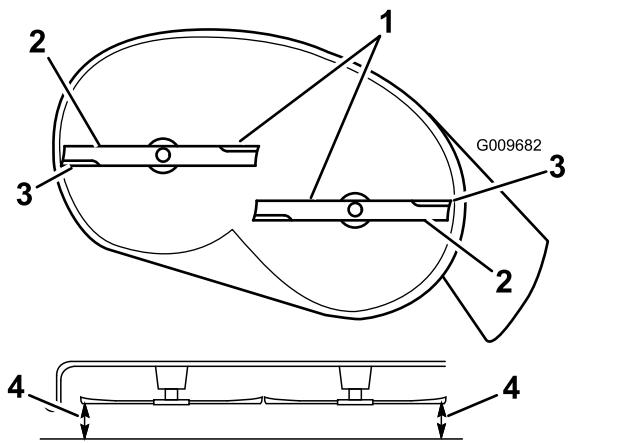
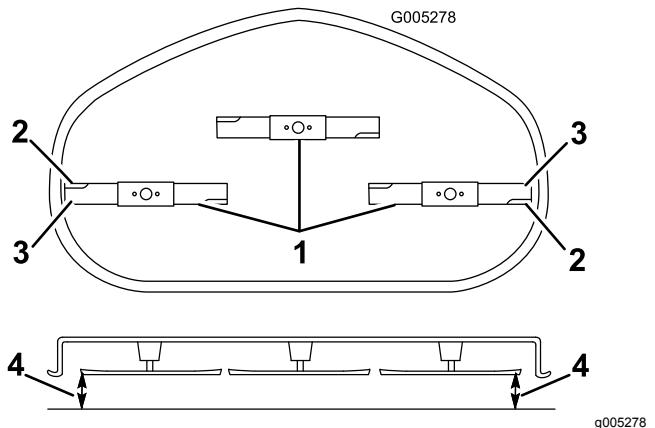

Figure 59
Figure 60
4. Carefully rotate the blade(s) so that they are all side to side (Figure 59 and Figure 60).
5. Measure between the outside cutting edges and the flat surface (Figure 59).